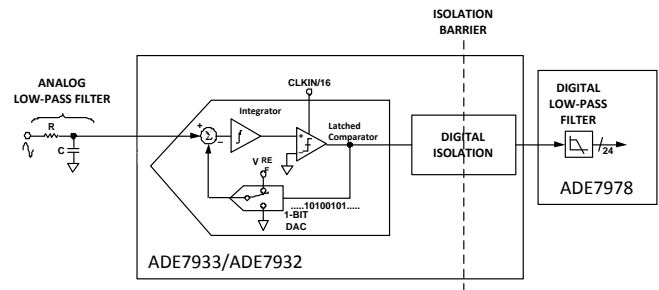
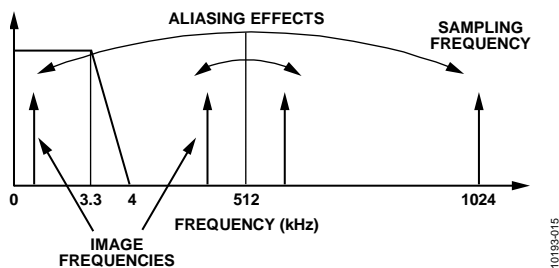

Figure 28. First-Order Σ - Δ ADC
Figure 30. Aliasing Effects
Figure 28 shows a first-order Σ - Δ ADC. The converter is composed of the Σ - Δ modulator and the digital low-pass filter, separated by the digital isolation block.
Figure 28 also shows an analog low-pass filter (RC) on the input to the ADC. This filter is placed outside the ADE7933/ADE7932, and its role is to prevent aliasing. Aliasing is an artifact of all sampled systems as shown in Figure 30. Aliasing means that frequency components in the input signal to the ADC, which are higher than half the sampling rate of the ADC, appear in the sampled signal at a frequency below half the sampling rate. Frequency components above half the sampling frequency (also known as the Nyquist frequency, that is, 512 kHz) are imaged or folded back down below 512 kHz. This happens with all ADCs regardless of the architecture. In the example shown, only frequencies near the sampling frequency, that is, 1.024 MHz, move into the band of interest for metering, that is, 40 Hz to 3.3 kHz. To attenuate the high frequency (near 1.024 MHz) noise and prevent the distortion of the band of interest, a low-pass filter (LPF) must be introduced. It is recommended to use one RC filter with a corner frequency of 5 kHz for the attenuation to be sufficiently high at the sampling frequency of 1.024 MHz. The 20 dB per decade attenuation of this filter is usually sufficient to eliminate the effects of aliasing for conventional current sensors.